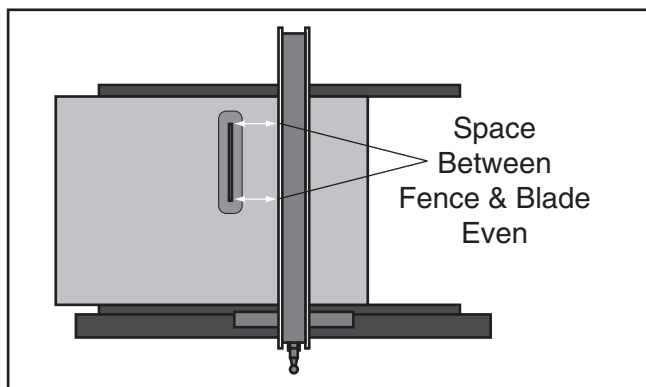

Figure 119. Example of fence aligned parallel with miter slot.
5. Rotate the blade 180° (**Figure 119**), and recheck the distance between the fence and the blade tooth you marked in **Step 4** to ensure they are parallel.